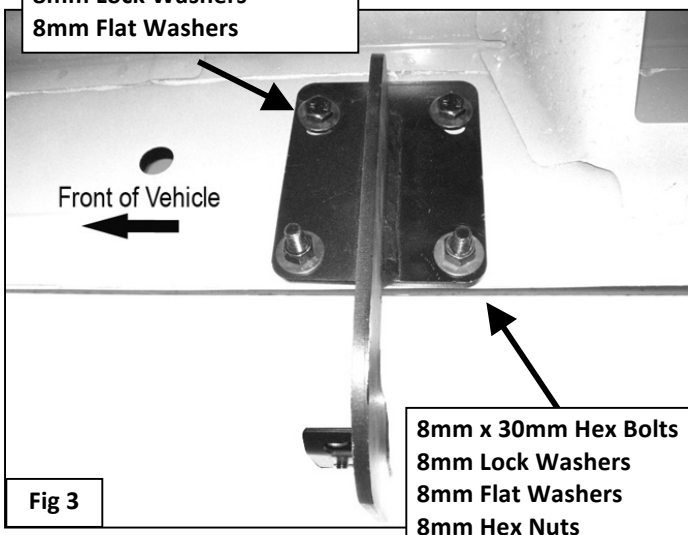

Fig 3
4. Partially attach passenger side Mounting Brackets to the previously installed Clip Nuts using the included (1 or 2) 8mm x 30mm Hex Bolts, (1 or 2) 8mm Lock Washers, and (1 or 2) 8mm Flat Washers, (Figure 3). **NOTE:** Cradles on the Mounting Brackets should face the front of the vehicle.
5. Attach the (2) bottom holes in the Mounting Bracket to the (2) holes in the pinch weld using the included (2) 8mm x 30mm Hex Bolts, (2) 8mm Lock Washers, (4) 8mm Flat Washers and (2) 8mm Hex Nuts, (Figure 3). Do not tighten hardware at this time.